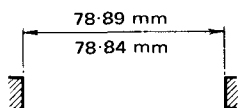

Fig. 3.98
(1) By stating the upper and lower limits (Fig. 3.98).